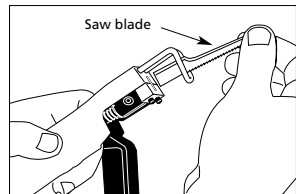

Figure 5
4. Carefully pull blade out of saw body as shown in Figure 5.